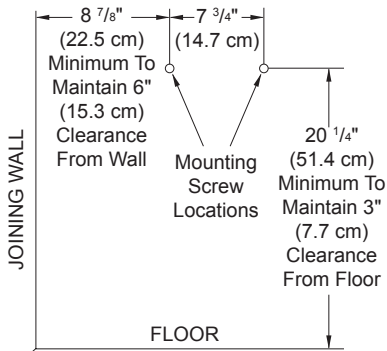

Figure 5 - Mounting Screw Locations
⚠ WARNING: Maintain minimum clearances shown in Figure 5, page 9. If you can, provide greater clearances from floor and joining wall.
2. Mark two mounting screw locations on wall (see Figure 5, page 9).